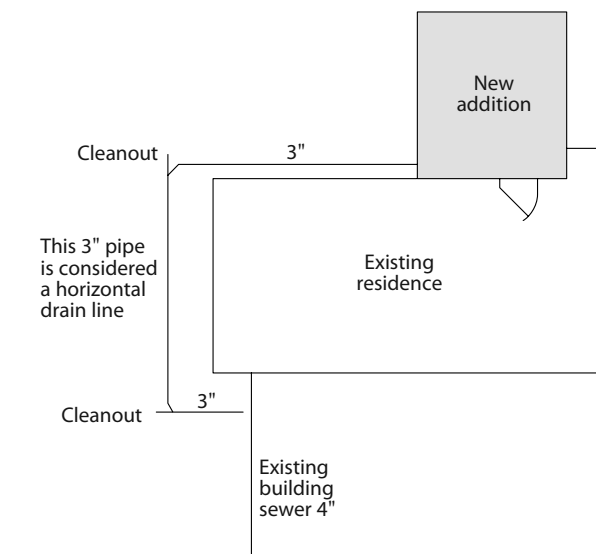

Figure 2-20
- Take a look at Figure 2-20, an addition with a bathroom at the rear of an existing building. (Figure 2-20 can also illustrate similar requirements for an accessory building on the same lot.) The plot plan shows the sewer from the